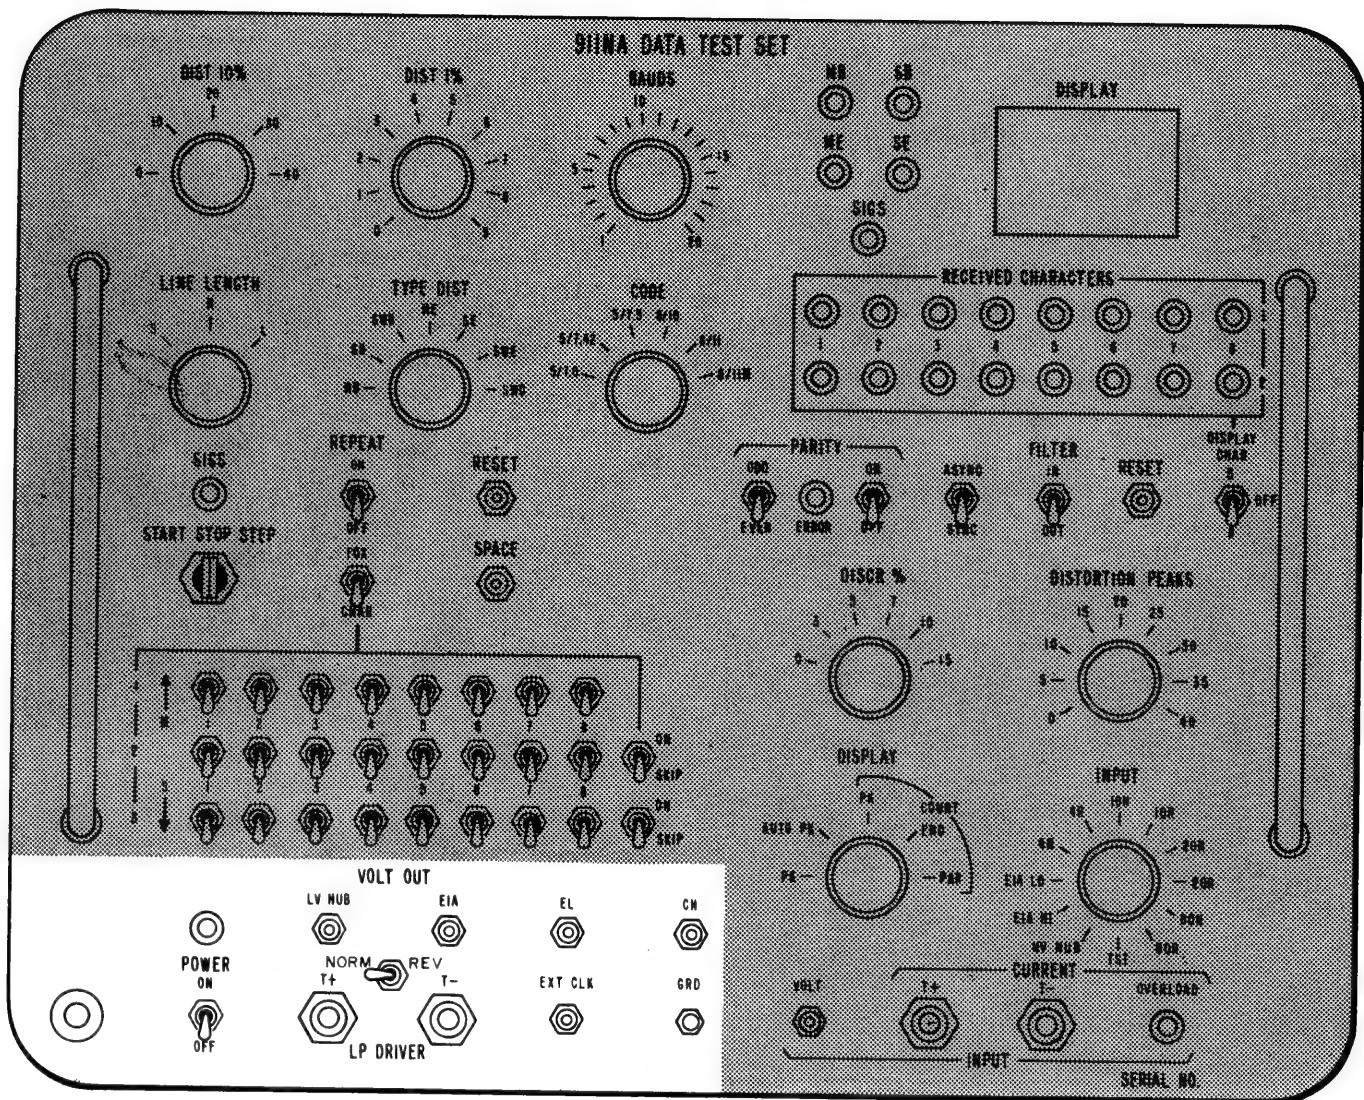

Fig. 14—Location of TSG Outputs
3.26 Figure 14 shows the location of the TSG outputs, external clock input, ground connection, and power switch.